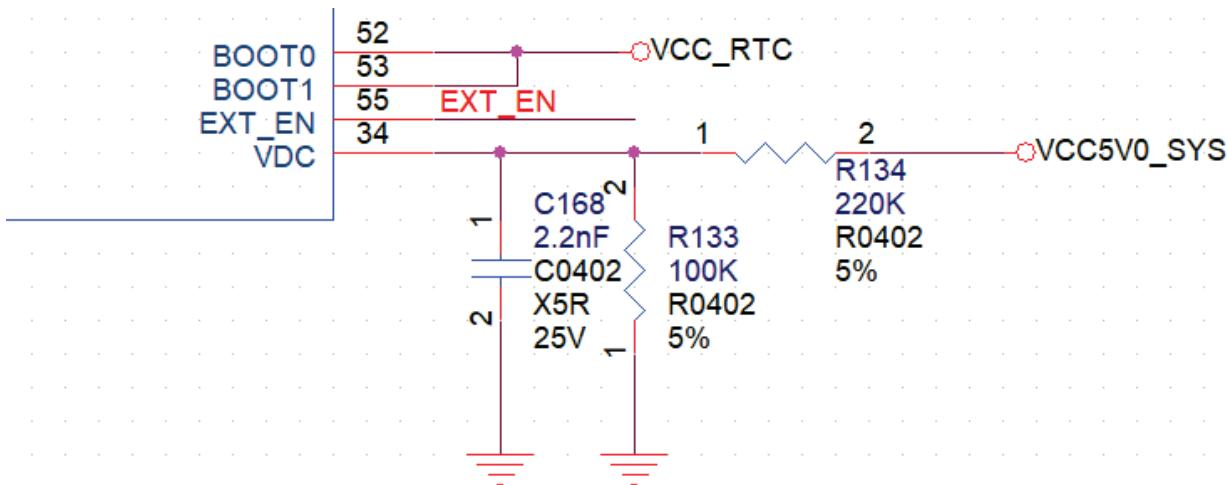

Figure 3-29 VDC Application Circuit 1
- In the product need to be automatically boot when plug in the DC power supply. and the power-on/off is through the power switch or plug off the DC power to achieve, it can be consider the direct use of resistor divider,Shown as Figure 3-29.